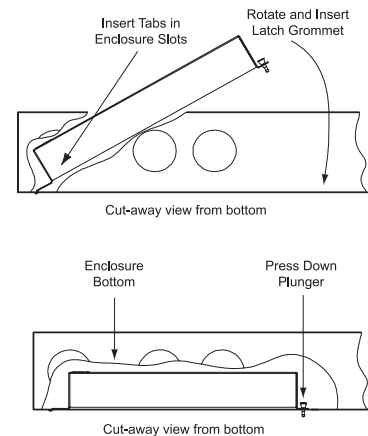

Figure 2
- A. Mounting in Enclosure - *ref. to example in Figure 2*